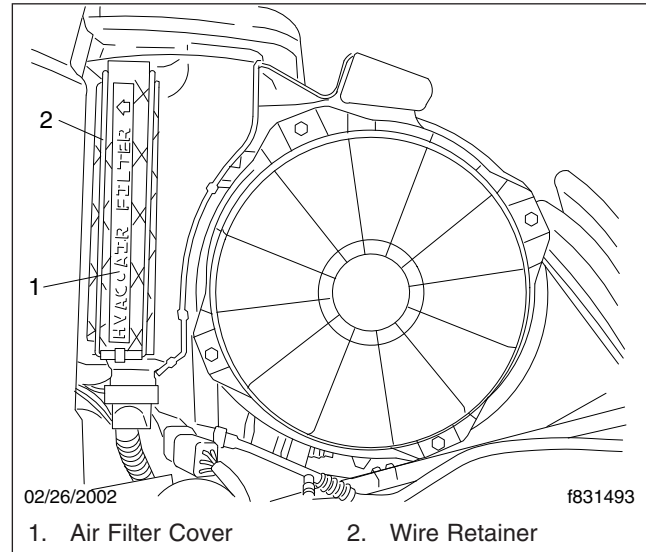

Fig. 3, HVAC Air Intake Plenum
2. Lift the wire retainer on the air filter cover up and over the upper edge of the cover and pull the wire retainer down. See Fig. 3.